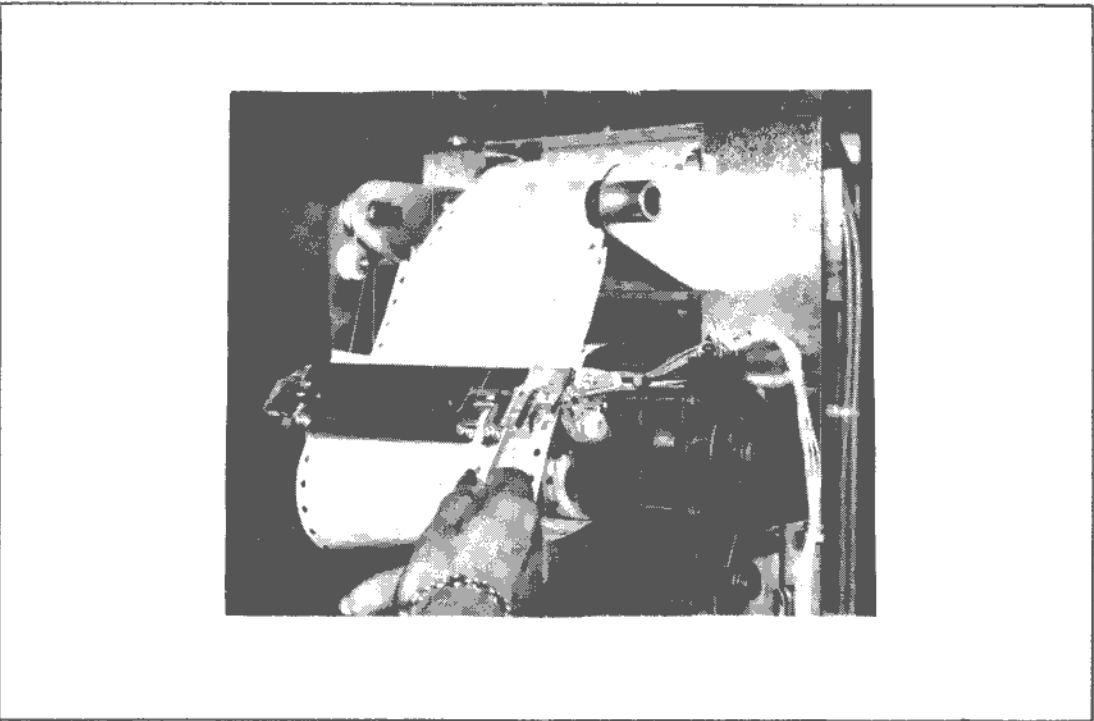

Figure 3-29. Renewal of Audit Paper
8. Feed the paper from the audit trail through the paper entry guide, just in front of the customer paper (refer to figure 3-29). When the audit trail appears from behind the pin-feed roller, pass it through the slit between the pin-feed roller and the tear-off blade mechanism. Ensure that the audit trail paper fed through the printer mechanism is long enough to reach the audit trail spool and to roll around the spool approximately four times.